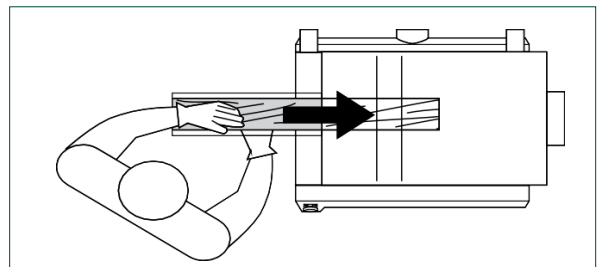

FIG. 7
1. To feed the workpiece into the machine, assume the proper operating position, FIG. 7. Stand offset to one side of the feed opening to avoid any kick-back, should it occur. Do not push the timber once the infeed roller has been engaged. Let the infeed roller move the workpiece into the thicknesser at its own pace.